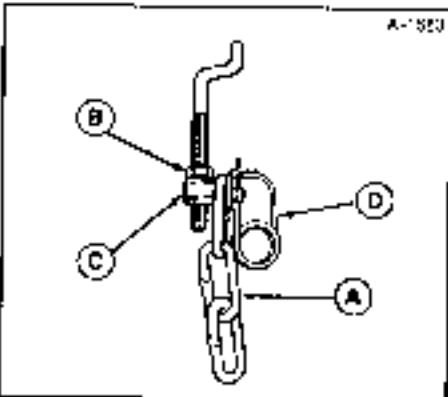

Figure 39. Lift Assembly - Large Lift Lever
- 4 To adjust, disconnect trunnion (C, figure 39) from chain by removing clip (D). Loosen the nut, and turn trunnion to raise or lower lift lever. Tighten nut when measurement is correct.